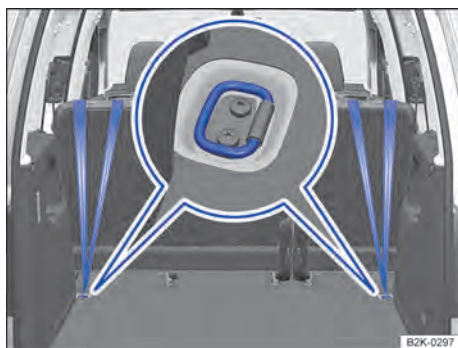

Fig. 45 Outer seats in the second row: top tethers attached in the bolted fastening rings at the sides of the luggage compartment.
6. Guide the top tether on the child seat behind the seat and hook it into the fastening rings → Fig. 45 or anchor rings → Fig. 46 or → Fig. 47.